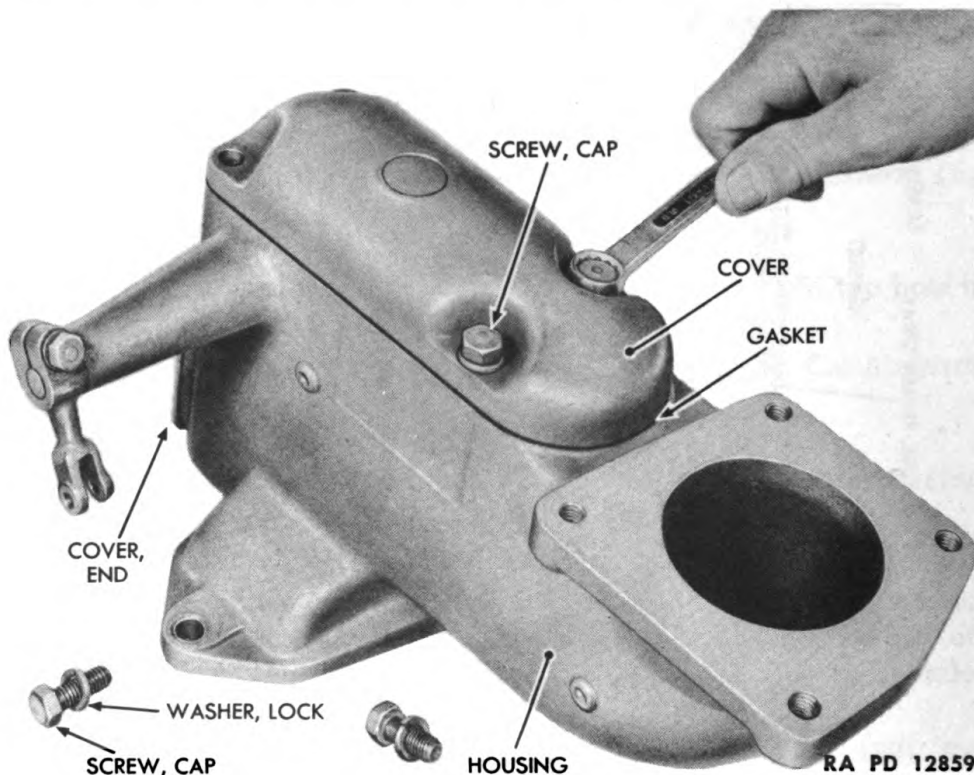

Figure 141—Air Valve Housing Cover Removal
(9) REMOVE HOUSING COVER (fig. 141).